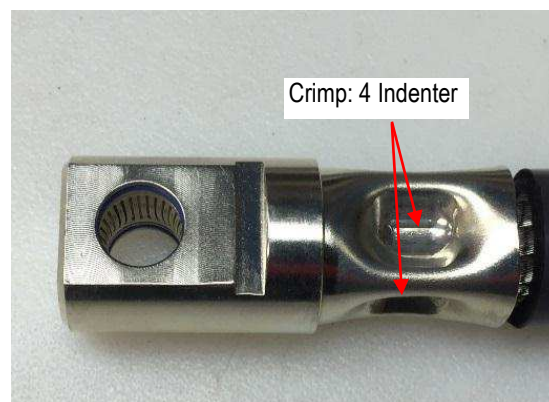

Figure 5
6. Hold the wire into the socket contact firmly and cycle the crimp tool when the contact and conductor is fully bottomed in the locator. Refer to Figure 5 for example after crimp operation. The crimp indent location must be centered in the crimp barrel.